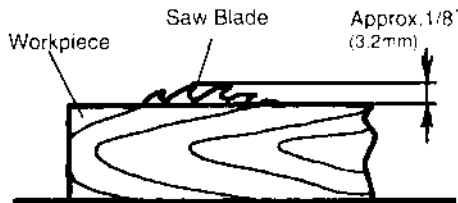

Fig. 25
4. When the miter gauge is used, securely tighten clamp handle (B).
6. When the rip fence is used, securely tighten clamp handle (A).
10. Adjust the saw blade height so it is about $1/8"$ (3.2mm) above the top of the workpiece. More exposure would be hazardous (see Fig.25) .